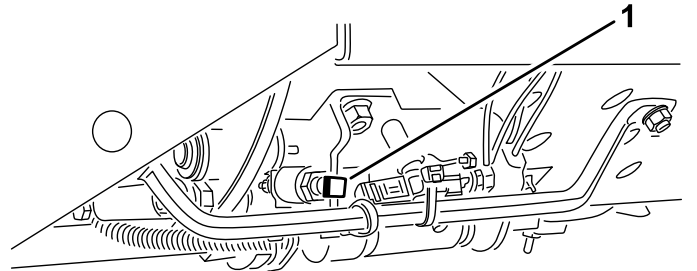

Figure 23
**Important:** The mow speed is set at the factory to 9.7 km/h (6 mph). You can increase or decrease the mow speed by adjusting the speed-stop screw (Figure 23).